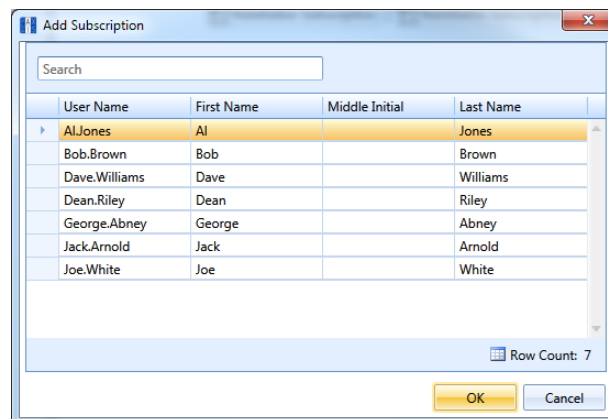

Figure 15-5. Add Subscription
- 2 Click  **Add** to open the *Add Subscription* dialog box (Figure 15-5).